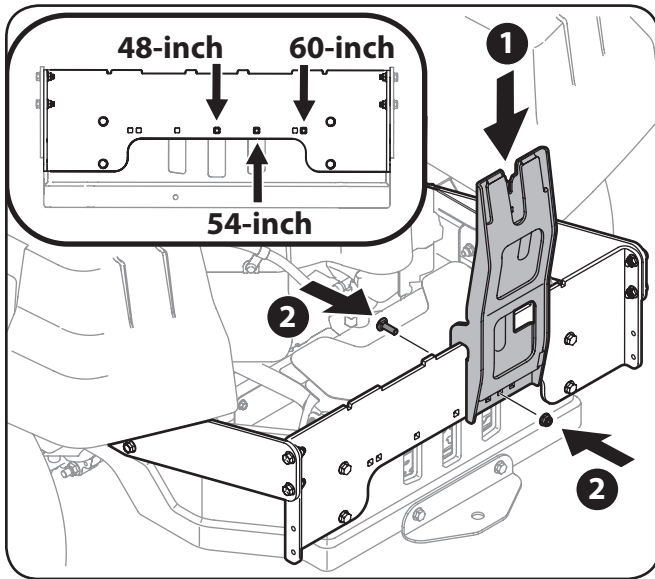

Figure 4-4
6. Install the bagger upright mounting bracket onto the mounting assembly (1 in Figure 4-4) of the tractor by hooking it over the bagger cross-support bracket near the center, lining up the corresponding mounting hole with the deck size of the tractor this bagger is being installed on. See the inset of Figure 4-4.
7. Secure the upright mounting bracket to the mounting assembly using a 5/16" carriage bolt and flange lock nut packed in with the upright bracket. See 2 in Figure 4-4.